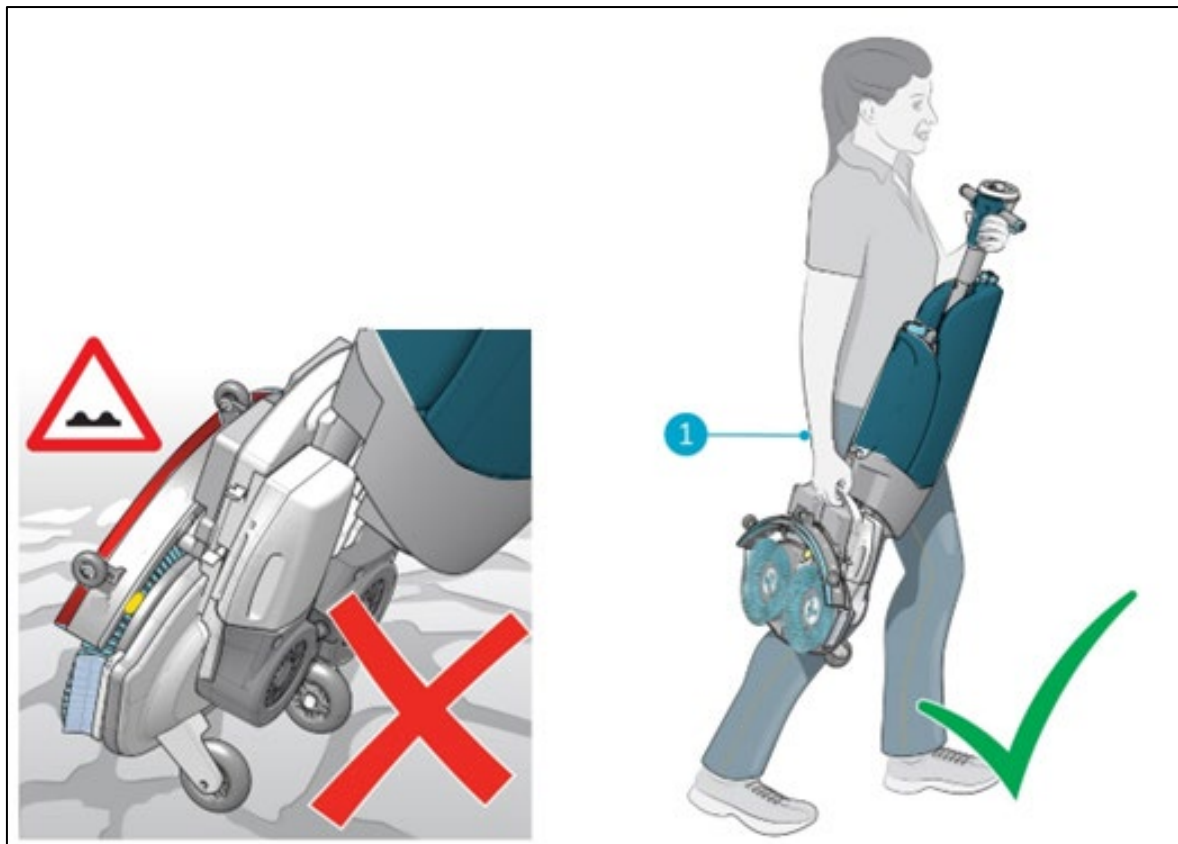

Figure 7
2. Carry the i-mop[®] XL with one hand while holding the handle (Figure 7, pos 1) with your other hand.